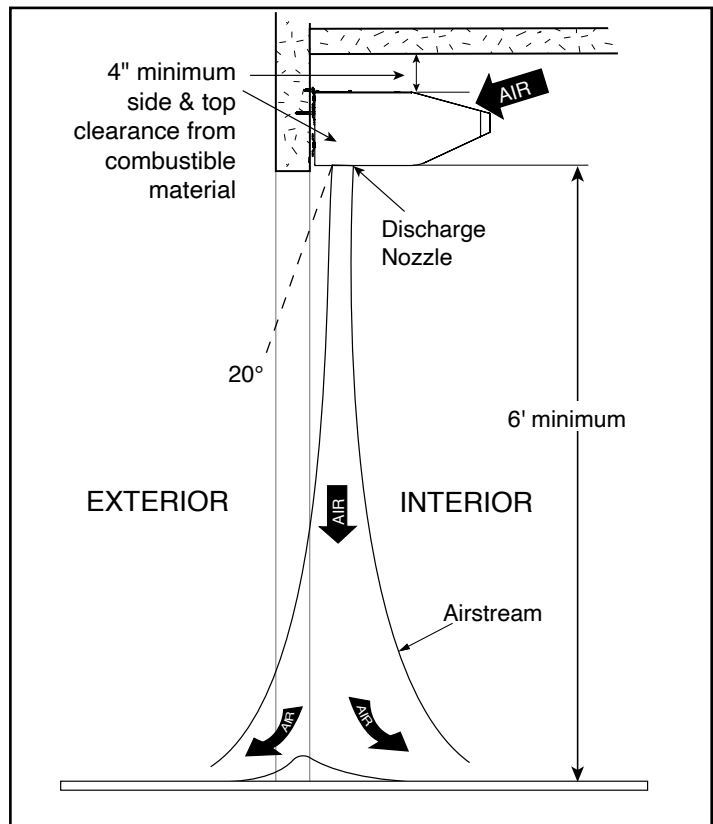

Figure 2 - General Mounting
- A. When determining the mounting location for the air curtain(s), make sure that nothing interferes with the curtain of air developed when the discharge vanes are directed from 0° to 20° toward the door opening. If the air stream strikes any obstruction (the top edge of the doorway, a door opening device, etc.), the effectiveness of the air curtain will be greatly reduced. See Figure 2.